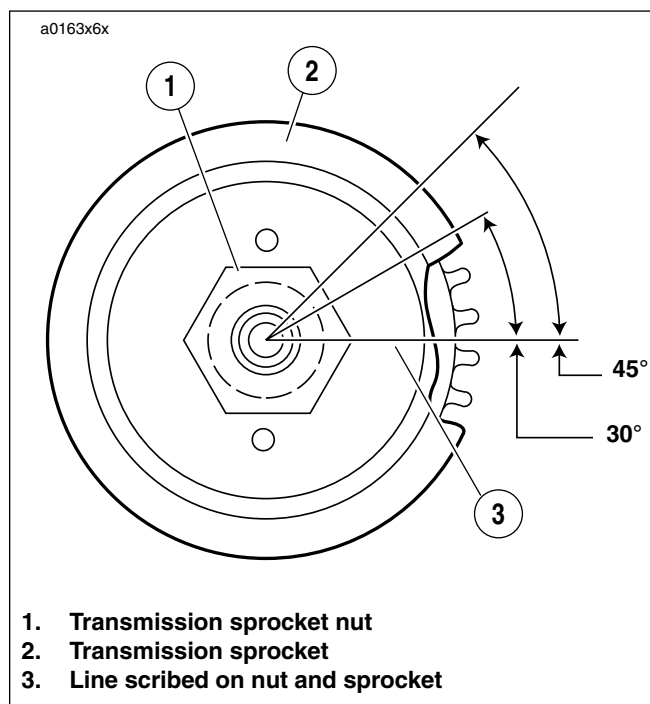

Figure 6-95. Aligning Transmission Sprocket
7. See Figure 6-95. Scribe a line on the transmission sprocket nut and continue the line on the transmission sprocket as shown.